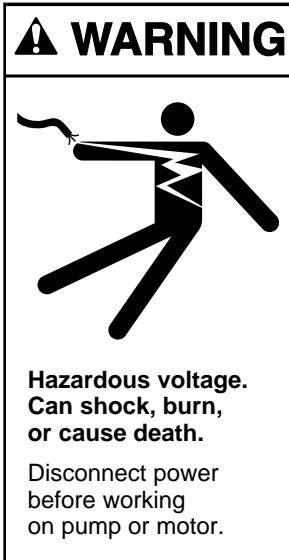

Figure 6
9. Place seal plate face down on flat surface and tap out ceramic seat (Fig. 6).
1. Ceramic seat must be clean and free of dirt, grease, dust, etc. Wet outer edge with small amount of liquid detergent; press ceramic seat into seal plate cavity firmly and squarely with finger pressure (Fig. 6).